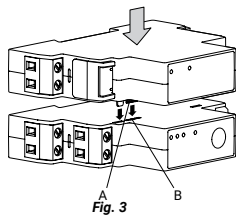

Fig. 3
Attach the Shelly Pro 3EM Switch Add-on to the Shelly Pro 3EM device as shown in Fig. 3
**CAUTION!** Be very careful not to bend the Device header pins fig. 3(A) when inserting them into the Shelly Pro 3EM device header connector fig. 3(B).